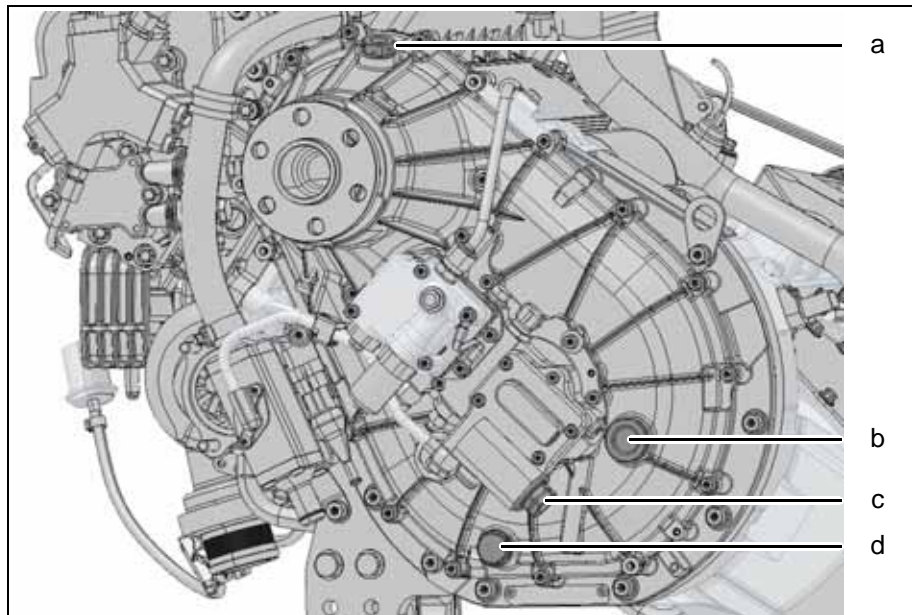

Fig. 6.42 Overview of the gearbox inspection points
2. Loosen the oil drain plug of the gearbox. Catch the oil with an appropriate container. See Fig. 6.42.